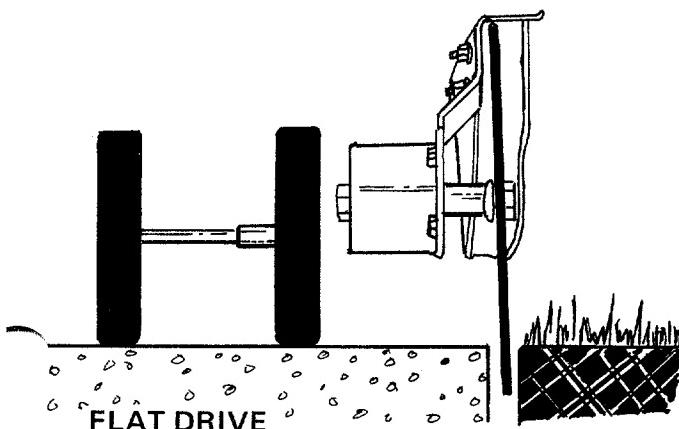

FIGURE 16
- Set the adjustment lever (refer to figure 12) in the second notch at the top to edge vertically. See figure 16.